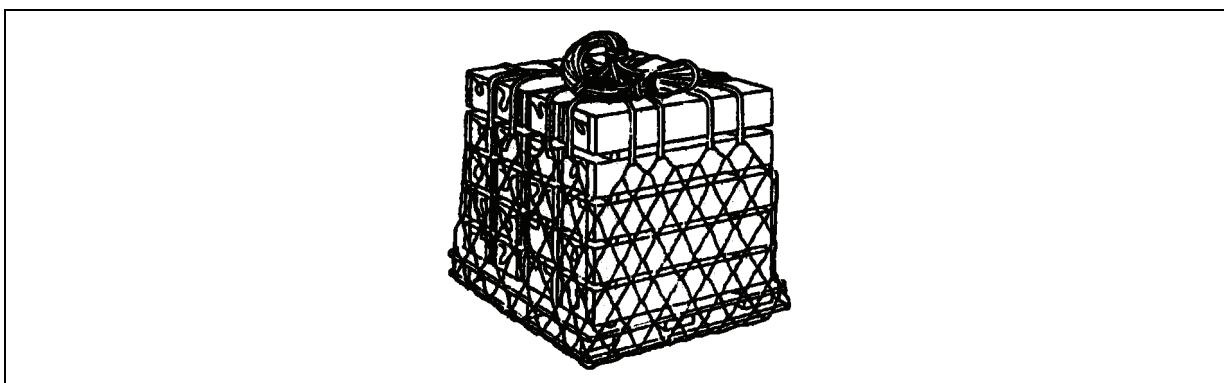

Figure 7-12. Lifting Legs Coiled on Top of Load
- Coil the lifting legs on top of the load. The net is now ready for hookup to the helicopter (Figure 7-12). If the load must be moved after it is rigged, carefully guide the forklift forks through the net and into the pallet slots. Pallets can be stored temporarily with nets rigged around them. However, they should not be stored on concrete. Placing an empty pallet on the